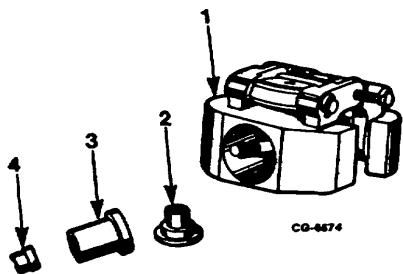

Figure 1. Details of Flyweight Assembly
1. Perform a static check on balanced movement of governor weights by making a temporary buildup less springs but using spring seats, trial spacer bushings (obtained locally) and adjusting nuts (Figure 1) on each weight as follows: